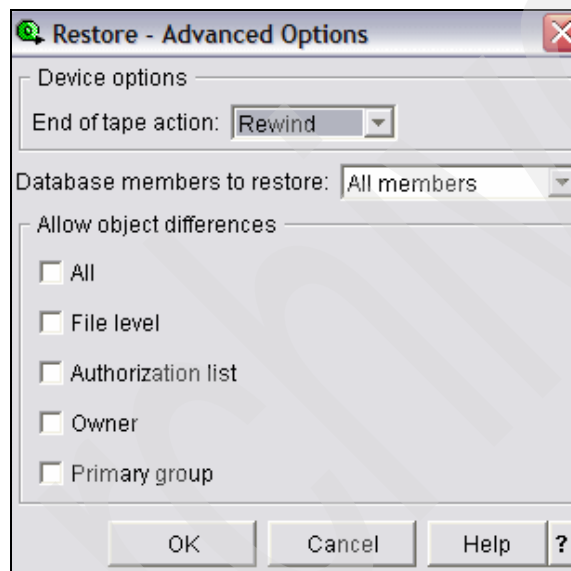

Figure 7-74 BRMS restore, end of tape action plus allow differences
9. In this scenario, since nothing else has to be restored, select **Unload** against the End of tape action field in the window shown in Figure 7-74.